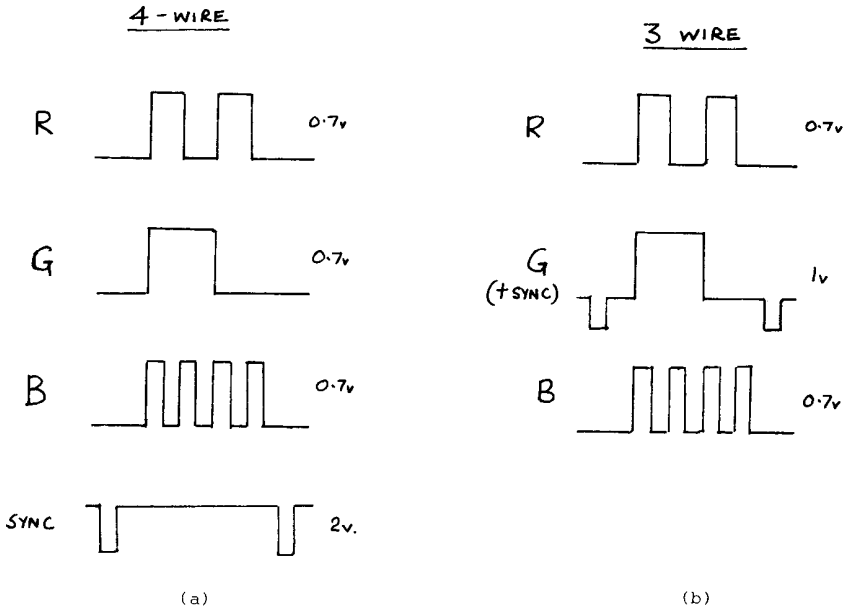

Fig.5 R.G.B. FORMATS
When distributing colour signals in their R.G.B. form the norm is for the signals to be non-composite, with syncs distributed separately giving a 4-wire system. See Fig.5(a). The video signals are therefore 700mV p-p, syncs are normally 2-volts p-p, negative-going. (all into 75-ohms, as above). However, two variations on this standard do exist, and they are:-
(1) In order to have a 3-wire system, 300mV sync can be added to the Green signal, giving R=700mV; G=1 volt; B=700mV. See Fig.5(b).
(2) With the increasing use of micro-computers, RGB + syncs distributed at TTL level is becoming widely used (mainly for connecting computers to RGB monitors). However, this system is not correctly impedance-matched, and should not be fed down cables longer than about 18".